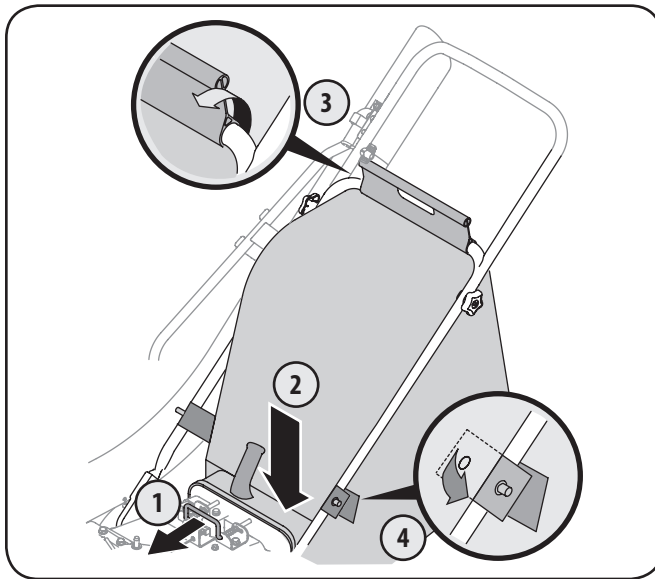

Figure 3-6
1. Grasp bag handle with one hand and slide locking rod on mounting bracket with other hand toward engine. Use the end of mounting bracket as leverage when sliding the locking rod. See Fig. 3-6.
4. Place the lower straps on the bag over the top of lower handle, hooking them on the studs. See Fig. 3-6.